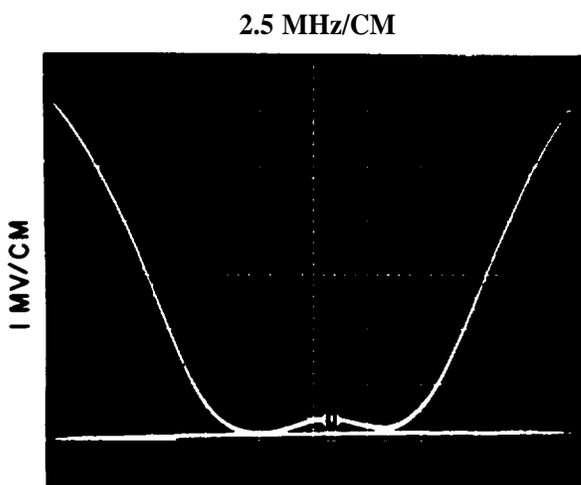

Figure 4-11. Typical Response,
- (3) Set the sweep generator to a 250 MHz center frequency and to a 50 MHz sweep width.
- (4) Set the oscilloscope controls to view the sweep response.
- (5) Set the signal generator to 60 MHz at a level sufficient to produce a marker.
- (6) Rotate the tuner shaft fully counterclockwise.
- (7) Be sure both the bottom cover and the oscillator cavity cover are in place.
- (8) Establish a convenient 2.5:1 VSWR reference level. Then connect J1 of the tuner in place of the 2.5:1 termination on the impedance comparator.
- (9) To adjust coils L13, L15, L18 and L20 in the following steps requires unsoldering them from the stators. When doing so observe the caution given in paragraph 4.7.1.2.
- (10) Adjust coils L13 and L15 for a symmetrical response centered on the marker. Refer to Figure 4-11 for a typical response.
- (11) Obtain a 6 MHz peak-to-peak separation by adjusting the tap position of L14 on both L13 and L15 (Inductor L14 passes through the Teflon feedthrough between cavities).
- (12) Repeat steps (10) and (11) until the interaction is minimized.
- (13) The response center must now be adjusted so that it approaches the 2.5:1 VSWR reference. Again refer to Figure 4-11 for the desired condition.
For responses shown in Figures 4-11 through 4-19 the 2.5:1 reference level is the x-axis. In addition, the y-axis is the center of the desired bandpass. Local oscillator markers shown on all VSWR response figures appear at a typical position for the frequency being swept.